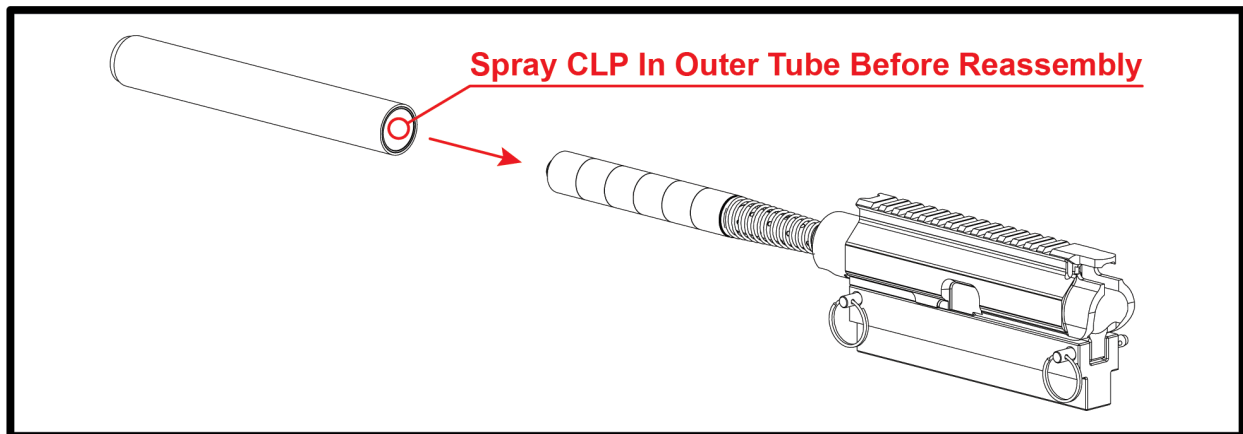

FIGURE 14.3 - Install the Outer Tube
Step 3 — Install the Outer Tube (FIGURE 14.3)